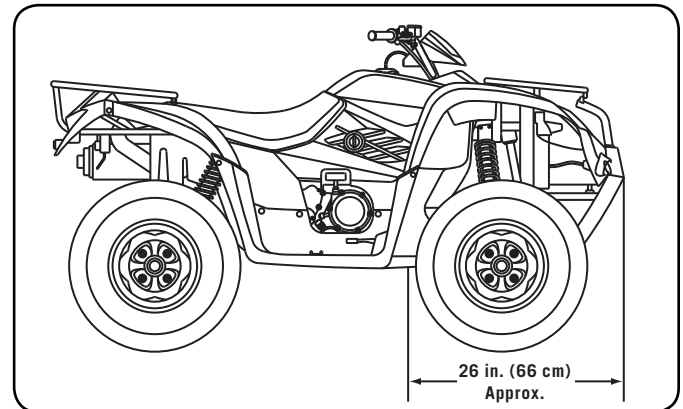
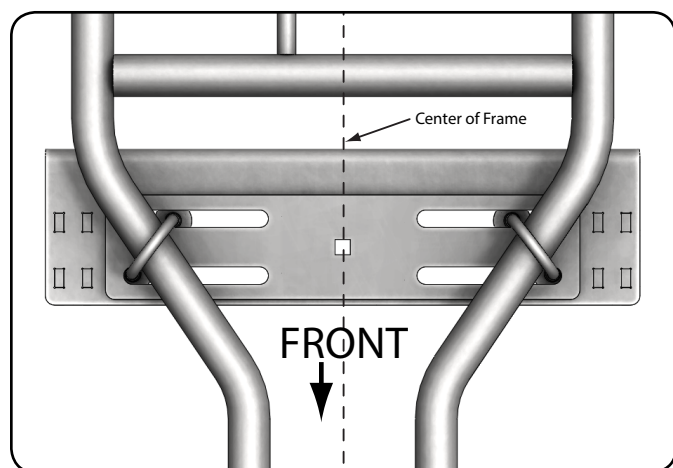

Figure 16 - Approximate Mount Distance
Figure 17 - Round Tube Mount Placements: Top View
2. The approximate distance that tab holes can be from the front of the machine is 26 in. (66 cm) as shown in Figure 16. Every machine can vary because of ATV front contour.
1. Place the hybrid lower mount plate up to the frame at the location behind the front tires where the frame widens out, as shown in Figure 17. Determine the location allowing the mount to be centered, back as far on the frame as possible and the push tubes to be attached. Keep the mount holes within the approximate distance from the front of your machine (see Figure 16).
4. Determine the location allowing the mount to be centered, back as far on the frame as possible and the push tubes to be attached. Keep the mount holes within the approximate distance (26 in. {66 mm}) from the front of your machine. See page 8, Figure 16.
5. Loosely install the upper mount plate (2) and lower mount plate (1) using the rubber spacers (4), $\frac{3}{8}$ in. (9.5 mm) bolts (5.4), $\frac{3}{8}$ in. (9.5 mm) carriage bolt (5.5), nuts (5.2) and washers (5.3) provided with your mount.
3. Determine the location allowing the mount to be centered, back as far on the frame as possible and the push tubes to be attached. Keep the mount holes within the approximate distance (26 in. {66 cm}) from the front of your machine. See page 8, Figure 16.